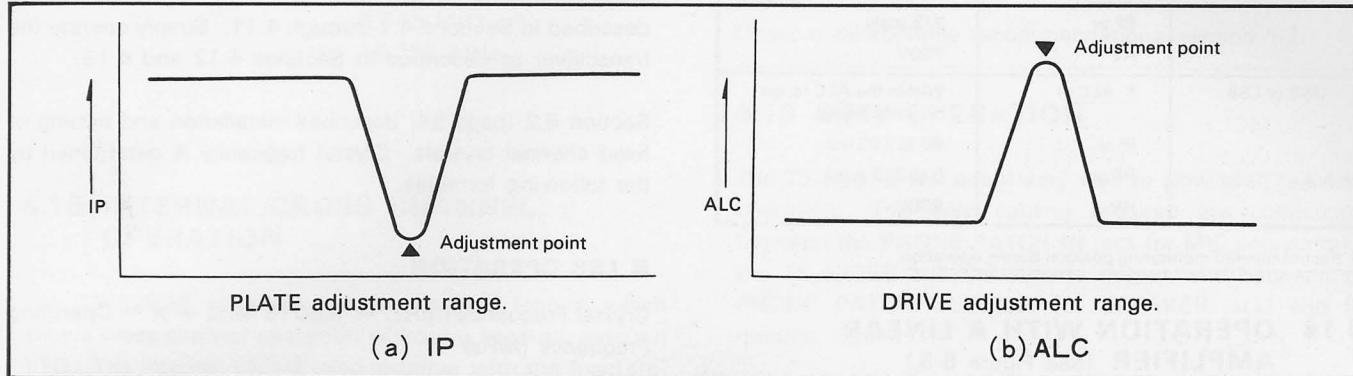

Fig. 4-3. Plate and Drive Tuning
■ DRIVE TUNING (See Figure 4-3.)
■ PLATE TUNING (See Figure 4-3.)